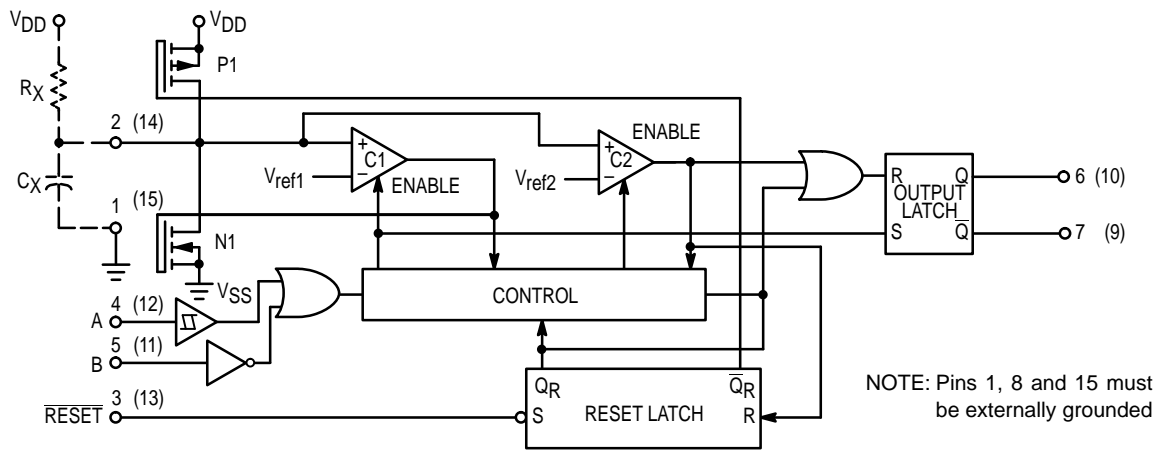

Figure 1. Logic Diagram (1/2 of Device Shown)
The block diagram of the MC14538B is shown in Figure 1, with circuit operation following.
As shown in Figure 1 and 10, before an input trigger occurs, the monostable is in the quiescent state with the Q output low, and the timing capacitor C_X completely charged to V_{DD} . When the trigger input A goes from V_{SS} to V_{DD} (while inputs B and Reset are held to V_{DD}) a valid trigger is recognized, which turns on comparator C1 and N-channel transistor N1 ①. At the same time the output latch is set. With transistor N1 on, the capacitor C_X rapidly discharges toward V_{SS} until V_{ref1} is reached. At this point the output of comparator C1 changes state and transistor N1 turns off. Comparator C1 then turns off while at the same time